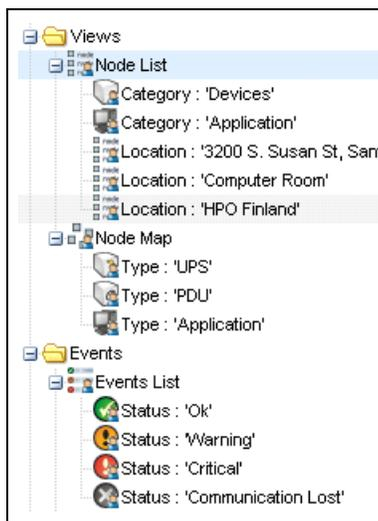

Figure 52. Views > Node List Example Hierarchy
1. Select a view in the **Views > Node List**, such as Category: "Devices" or Location "HPO Finland" (see Figure 52).
1. Select a view in the **Views > Node List**, such as “Location: Computer Room” (see Figure 52).